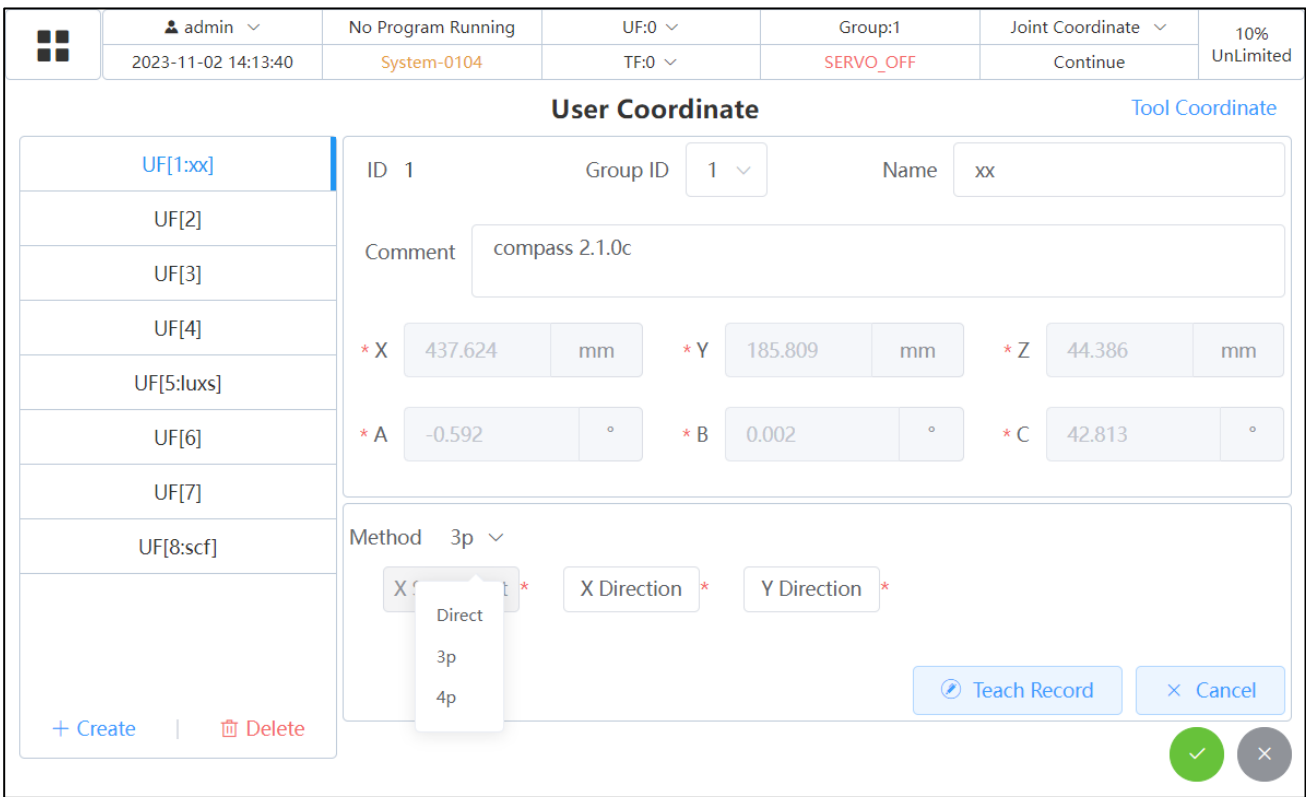

Fig. 2.26 User Coordinate System Setting Window
- 1) Click "Menu Button" → "Coordinate System" → "User Coordinate System" to enter the interface as shown in Fig. 2.26, and Choose 3p/4p as shown in the figure below.